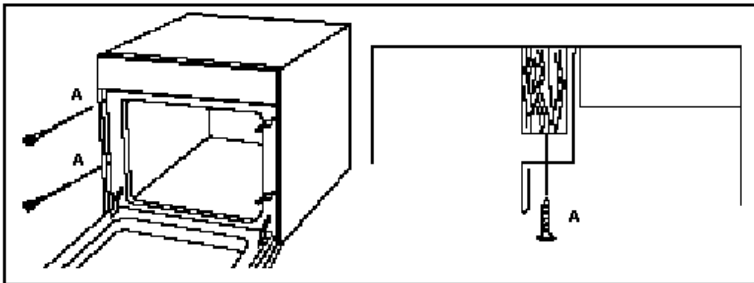

Figure 4
- ❖ Open the door and secure the oven to the kitchen cabinet with four wood screws, which fit the holes provided in both side of the oven frame (A). (See Figure 4)